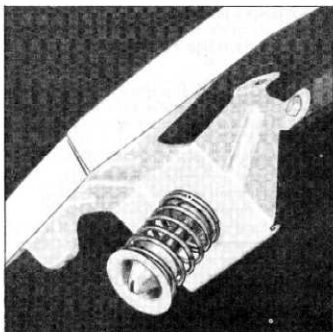

Fig. 4—Hood Lock Bolt
1. The closing or locking tension of the lock bolt in the lock plate may be adjusted by loosening the lock nut on the bolt and turning the bolt in the retaining plate (fig. 4) clockwise